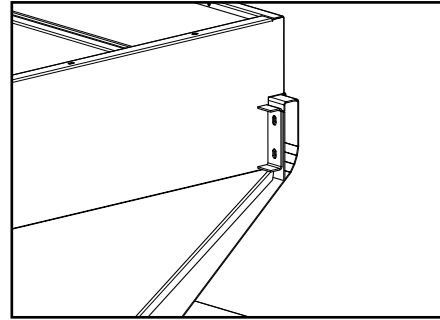

Figure 4B
- b. Figure 4B - Align MULTAPPLIER's and main bin's front and rear mount brackets.